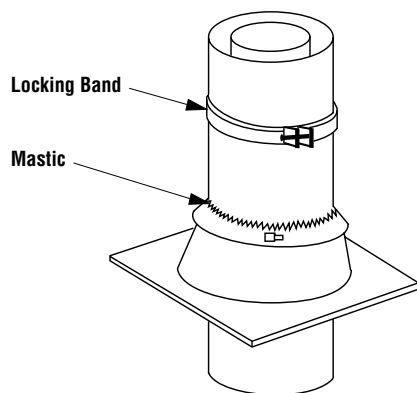

Figure 30
Step 8. The standard Security Chimneys F10 roof flashing assemblies include a storm collar. Slide the storm collar over outer chimney, rest on flashing spacers and align with top surface of flashing. Insert tab in slot, pull tight and bend tab back over slot. Seal storm collar to outer chimney with roof caulking or mastic around entire circumference of pipe. Also add extra roof caulking to the tab/slot area to seal completely against water penetration (Figure 30). Check all joints very carefully to ensure no water intrusion can take place.
Step 9. Security Chimneys locking bands, Model FLB, may be required if the chimney extends too high above the roof flashing. As a general rule, if the chimney extends more than 6' above the roof flashing, the use of locking bands is advisable to strengthen the chimney assembly. Align the locking band at the chimney joint. Locking bands wrap around pipe joints equally covering the joints of both pipe sections. Use the nut provided and TIGHTEN snugly. Do not overtighten as this might damage the chimney section (refer to Figure 30).